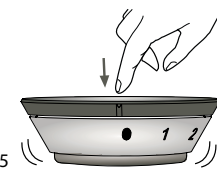

Fig. 5
- Press the remote control in to switch on the light to the highest level, as shown in figure 5.